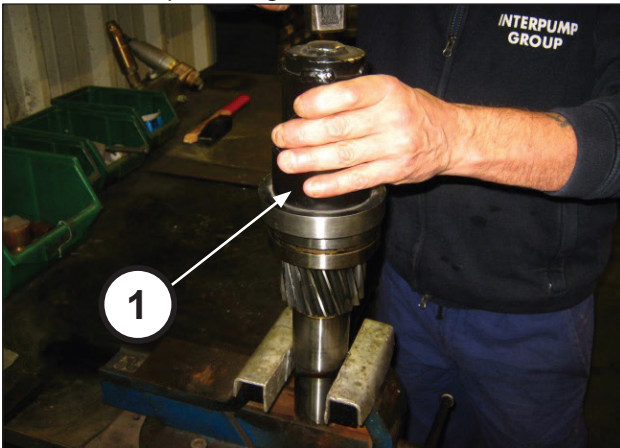

Fig. 68
Assemble the 65x120x31 bearing on the pinion using the tool code 27887100 (pos. ①, Fig. 68).